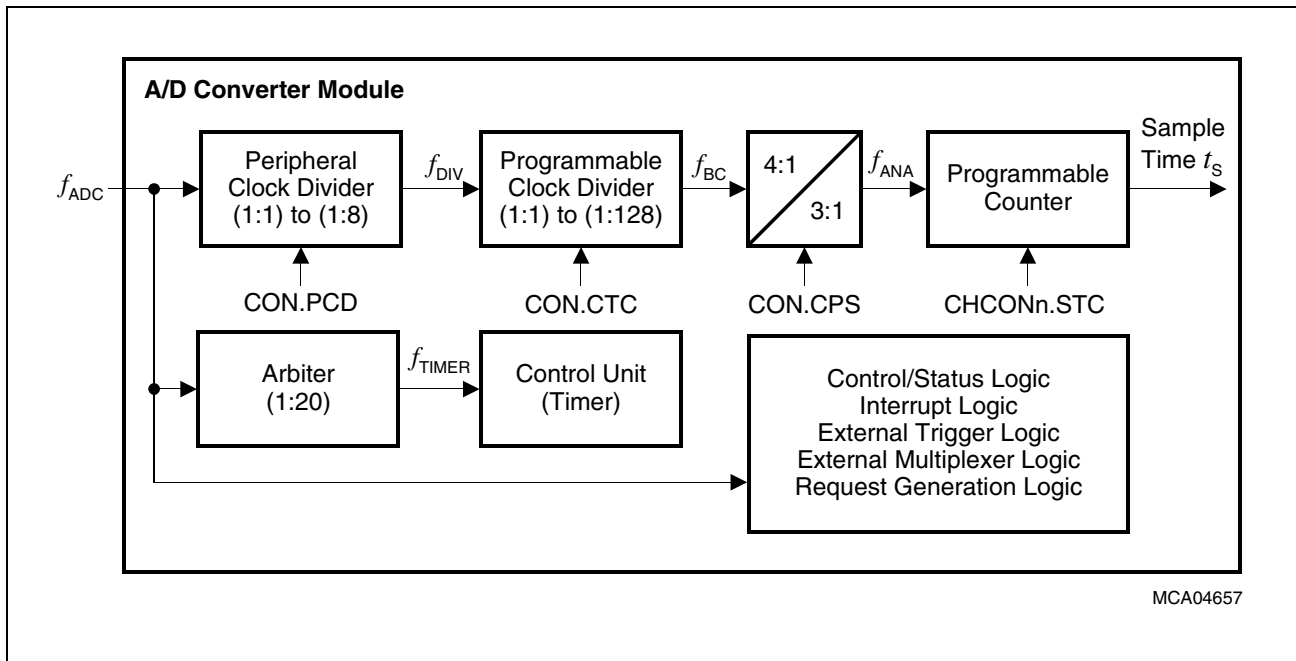

Figure 25 ADC Clock Circuit
5) Definitions for CPS, STC, t_{BC} and t_{DIV} see Figure 25.